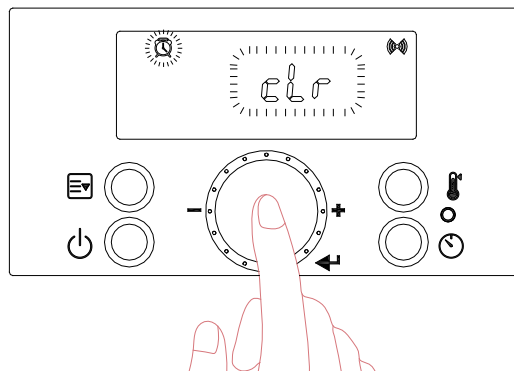

Figure 47 – Resetting the Recirculation Run Time
- b. Turn the dial  until “cLr” flashes on the screen. Press the  button at the “cLr” screen to reset the Recirculation Run Time. See Figure 47.